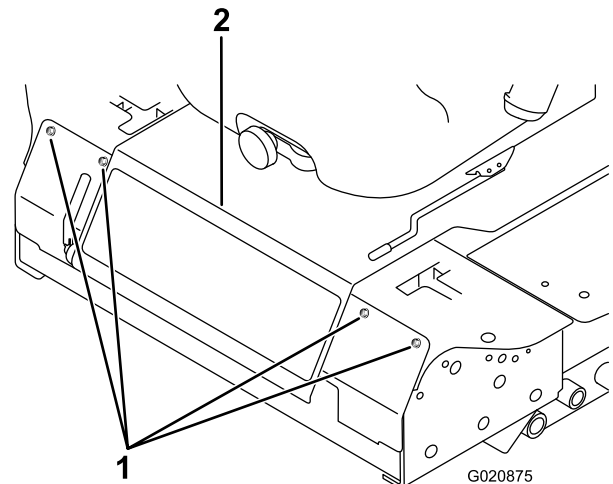

Figure 62
3. Remove the bolts securing the front panel and remove the panel (Figure 62).